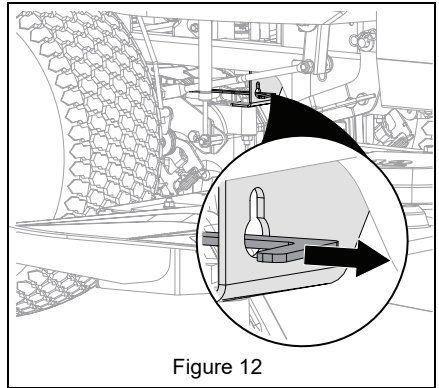

Figure 12
2. Pull both transaxle bypass levers out into bypass position. See Figure 12.